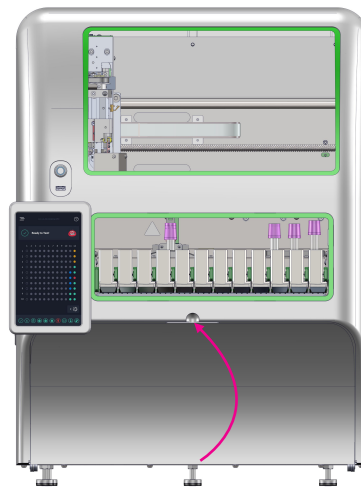

Figure 63
7. Close the Bottle Compartment Door (Figure 63).